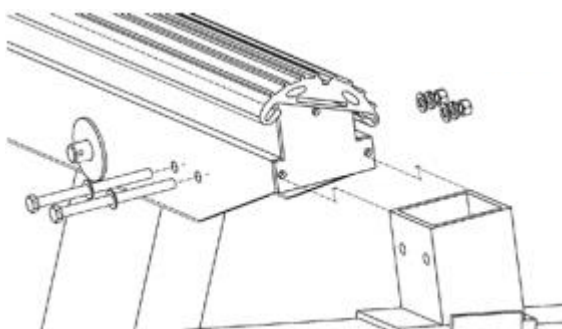

Figure 22
1. Insert the Guide Pole Mounting Bracket into the bottom of the Bunk support as depicted in Figure 22.
3. Attach one (1) 3/8" Flat Washer over two (2) Hex Bolts and insert into the corresponding holes in the Bunk support as depicted in Figure 22.
4. Attach one (1) Lock Washer and one (1) Hex Nut to each of the protruding Hex bolts and fasten with appropriate wrench until secure.
5. Repeat this step three (3) more times, once for the opposite end of the Bunk, and twice for the second Bunk.